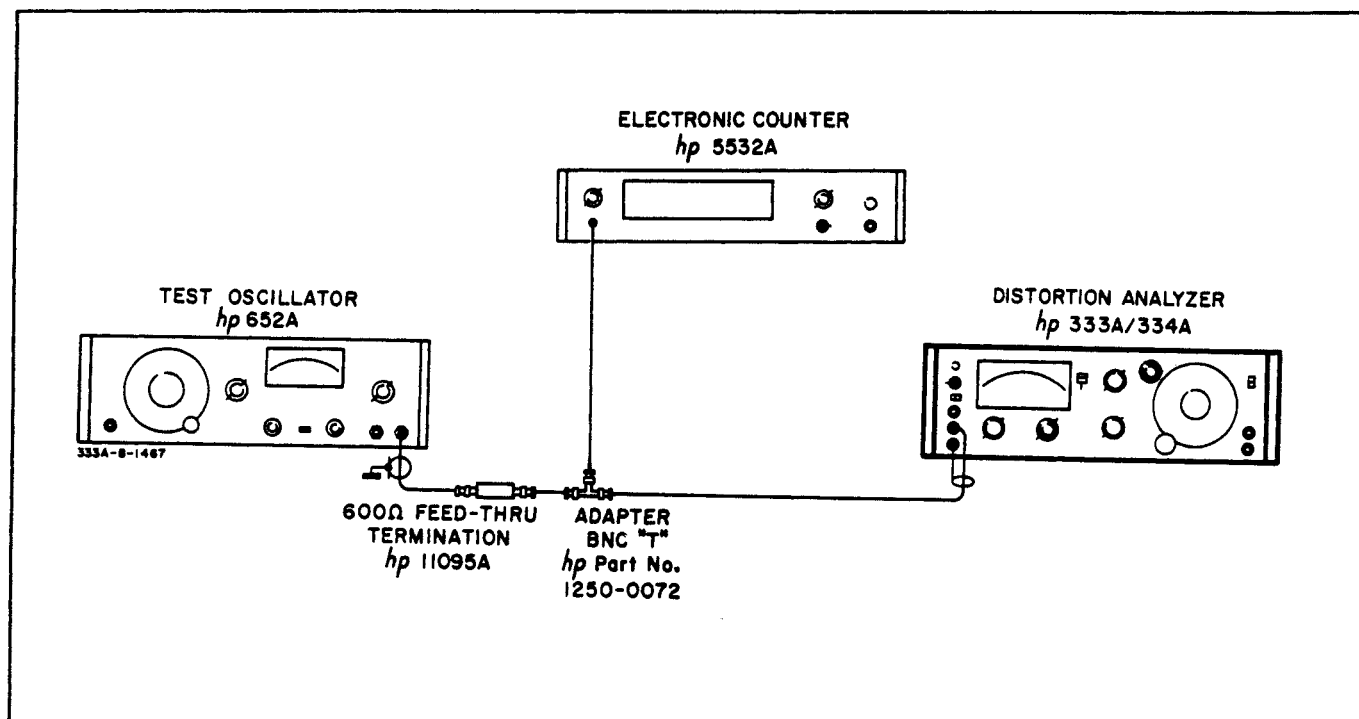

Figure 5-4. Frequency Calibration Accuracy Check
- a. Connect test equipment to 333A/334A as shown in Figure 5-4. Set electronic counter to read period.